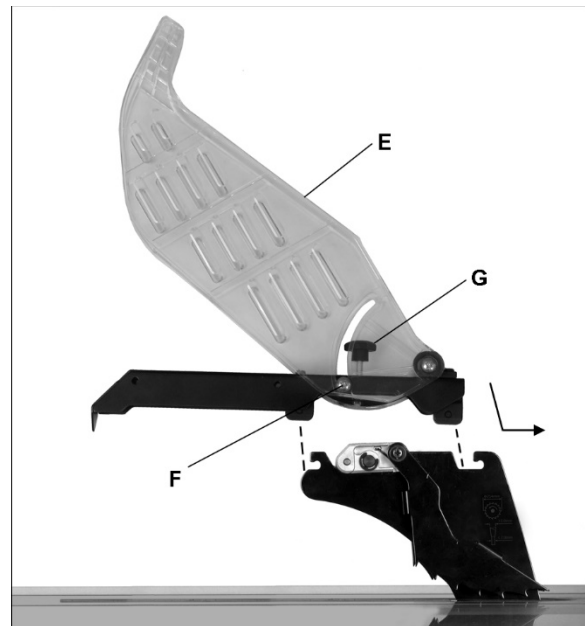

Figure 6-12
See Figure 6-12.
1. Push up guard leaves (E, Figure 6-12) until they catch and hold on the peg (F).
3. Tighten knob (G).
4. Pull down guard leaves (E) and allow them to drop to the table.
**IMPORTANT:** Knob (G) must be tightened before operating saw with guard in place.